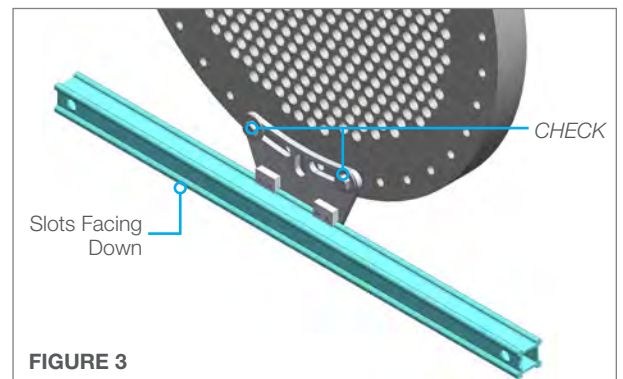

FIGURE 3
3. Loosen the **Rail Clamp Tensioner** on the bottom **Positioner Clamp** and insert the **Lower Rail with the slots facing down**, into the lower rail clamps. It is not critical that this rail is aligned as precisely as the top rail, but it should be close to parallel with the top rail for best performance. Tighten the **Rail Clamp Tensioner** securing the rail to the **Positioner Clamp**. Check Rail Clamp bolts to ensure they are secured to the tube bundle flange. **(Figure 3)**